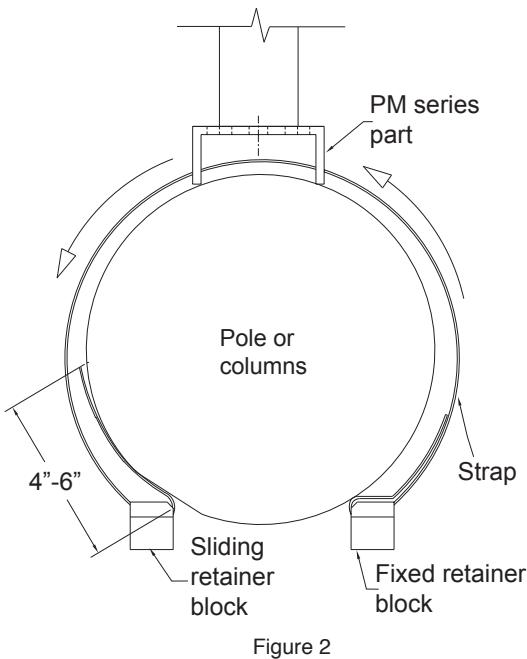

Figure 2
Insert the free end of the strap through the slots on the side of the pole mount channel, then through the sliding retainer block, non-beveled end first (Figure 2).
Holding the fixed block firmly against the pole, overlap the strap. Move the sliding retainer block up against the fixed retainer block so that their two beveled edges meet each other (Figure 2).
**Step 6:** Place the strap assembly around the pole, at the final mounting height and secure the retaining blocks with the carriage bolt, flange nut and flat washer. Be sure that the pole adapter is oriented into the right direction and with the bolt assembly on the opposite side of the pole adapters (Figure 2 and 4).